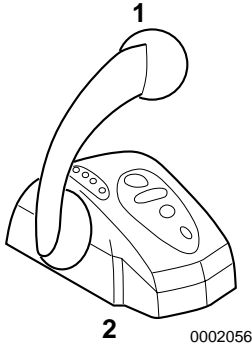

Figure 1
3. Set the control lever on the control head (**Figure 1, (2)**) in N (neutral) (**Figure 1, (1)**) position.